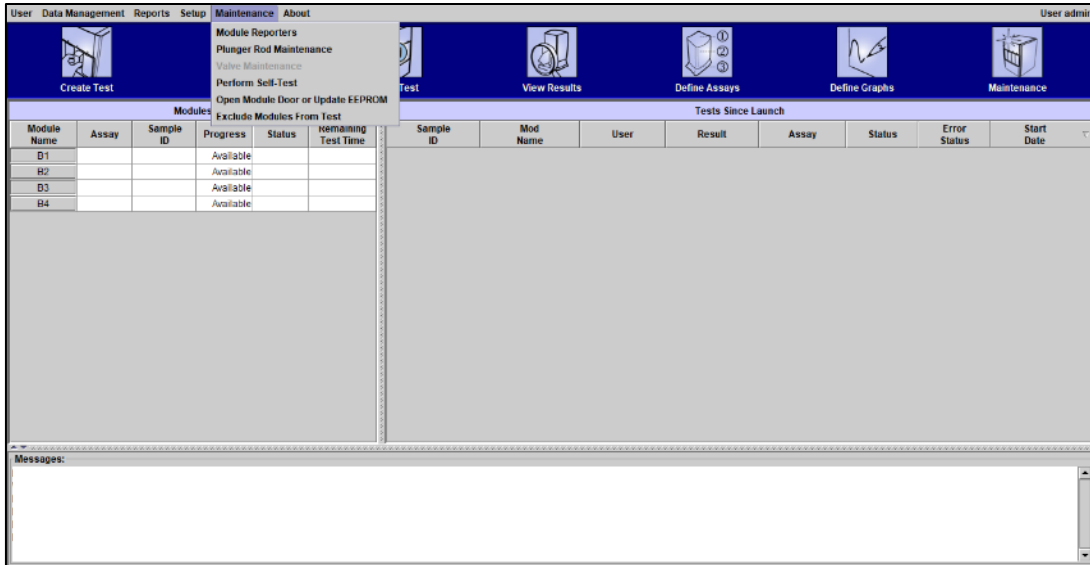

Figure 12. Plunger Maintenance location
- C. Select *Plunger Rod Maintenance* (Figure 12.).